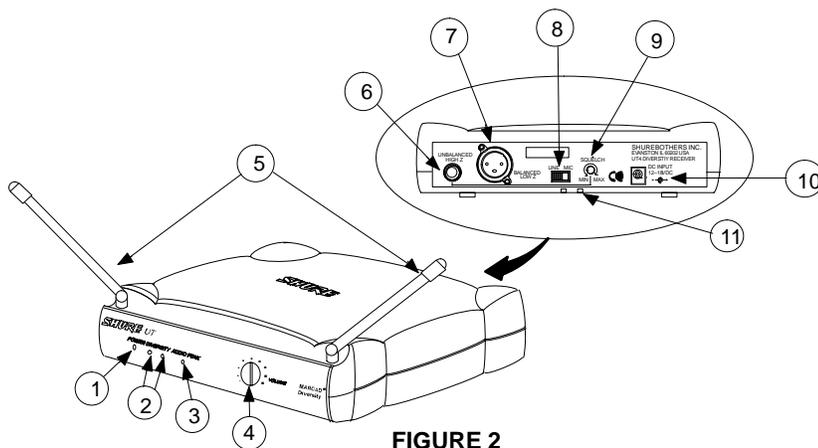

FIGURE 2
**UT4 DIVERSITY RECEIVER FEATURES (FIGURE 2)**